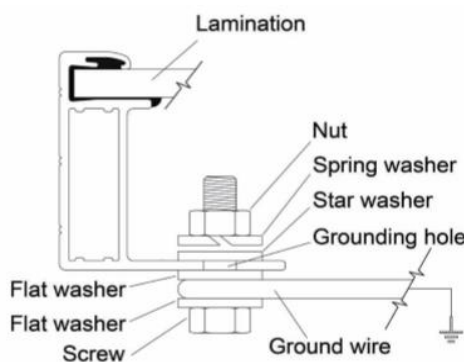
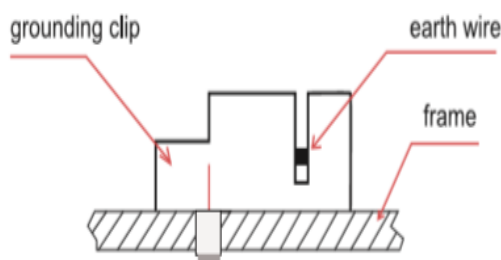
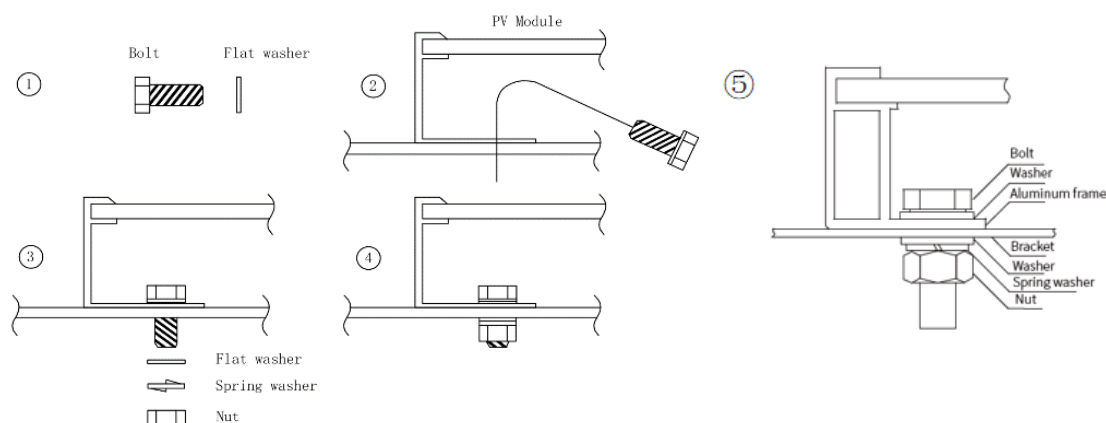
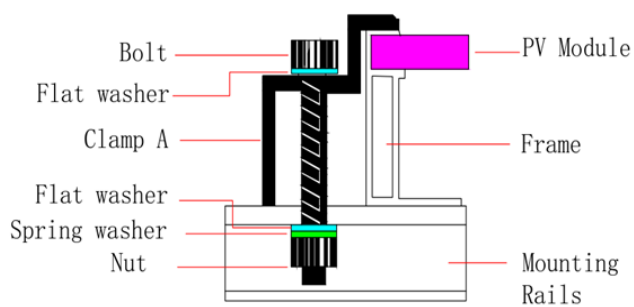

figure 1
figure 2
figure 3
figure 4
- Use M4 bolt and washers to bond the ground wire and aluminum frame through the grounding holes (as shown figure 1). The tightening torque is 3-7N.m. All nuts and washers should be made of stainless steel.
- As shown in the **figure2**, the grounding clip assembly consists of a slider, base, and self-captivating thread-cutting screw or 8-32 screw and hex nut. The grounding clip accepts solid uninsulated copper wire sizes 10 or 12 AWG.
- The method and the specifications of the fixing parts are shown in the figure 3 below:
- Clamp material should be anodized aluminum alloy or stainless steel. The mounting details are shown in the following **figure4** and **figure5**.
Mounting Method: Bolting**Figure 1 O-A****Outer four holes, mounting rails parallel the long frame****Figure 2 O-B****Outer four holes, mounting rails cross the long frame****Figure 3 I-A****Inner four holes (1150mm holes) mounting rails parallel the long frame****Figure 4 I-B****Inner four holes (1150mm holes) mounting rails cross the long frame****Figure 5 D-A****8 bolts at the long frame, mounting rails cross the long frame**